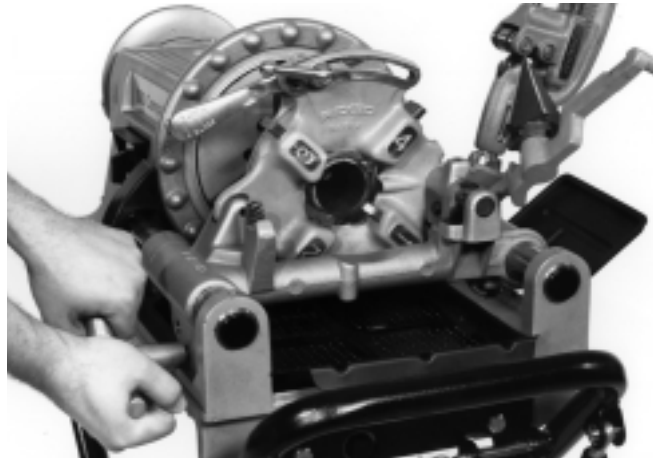

Figure 10 – Threading Pipe With No. 811-A Quick Opening Die Head
5. Turn carriage handwheel to bring dies against end of pipe. Slight pressure on handwheel will start dies (Figure 10).